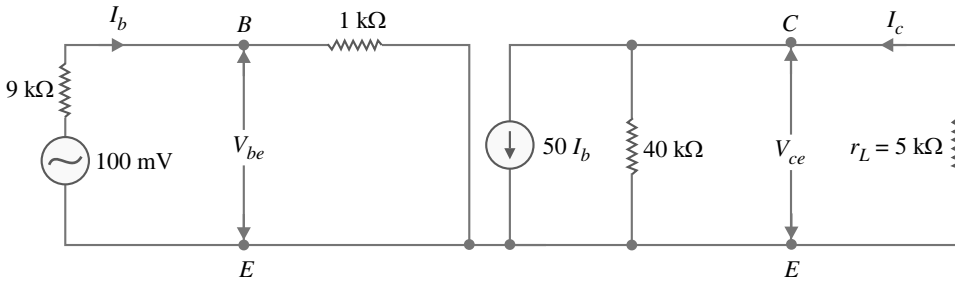

Fig. 22.16
**Solution.** Fig. 22.16 shows the a.c. equivalent circuit of the transistor amplifier where transistor has been replaced by its *simplified* hybrid equivalent circuit.